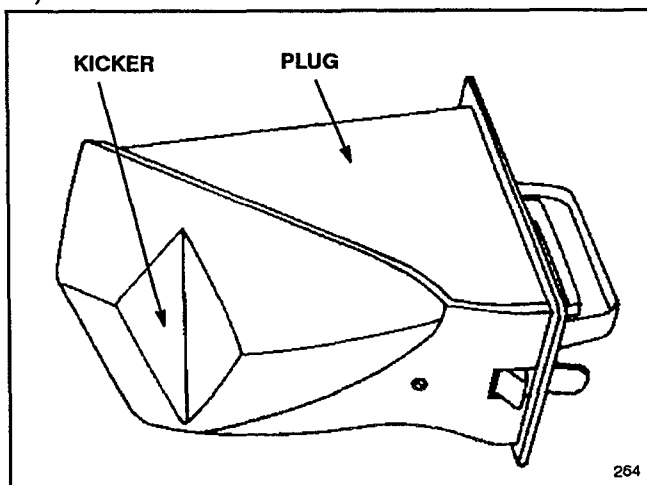

Figure 10
C. A special plug which locks into the mower's discharge tunnel (a fourth kicker is on the plug) (Fig. 10)
It is possible to mow without using the plug by closing the discharge tunnel door. However, your lawn appearance will be much more satisfactory if you use the plug as it has an additional kicker (Fig. 10) that helps drive the clippings down into the grass.